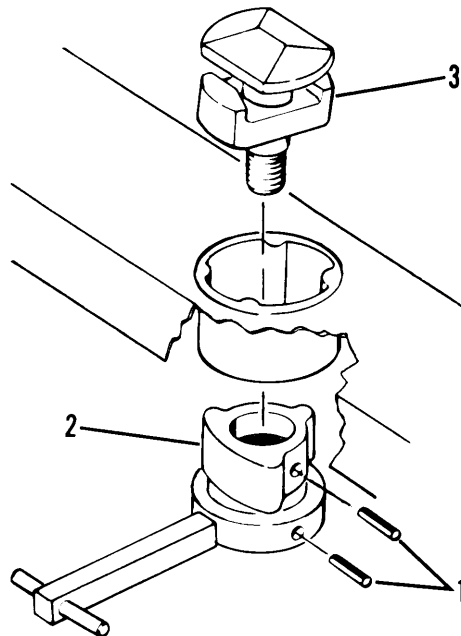

Figure 4-46. Retractable Twist Lock
- (1) Lower lock.
- (2) Drive out pin (1, fig. 4-46) and remove lower assembly (2) by turning clockwise.
- (3) Remove upper assembly (3) , taking care not to separate locator block and bayonet.
(1) Install upper assembly (3, fig. 4-46).
(2) Install lower assembly (2). Turn clockwise and align holes for pin (1).
(3) Install pin (1).